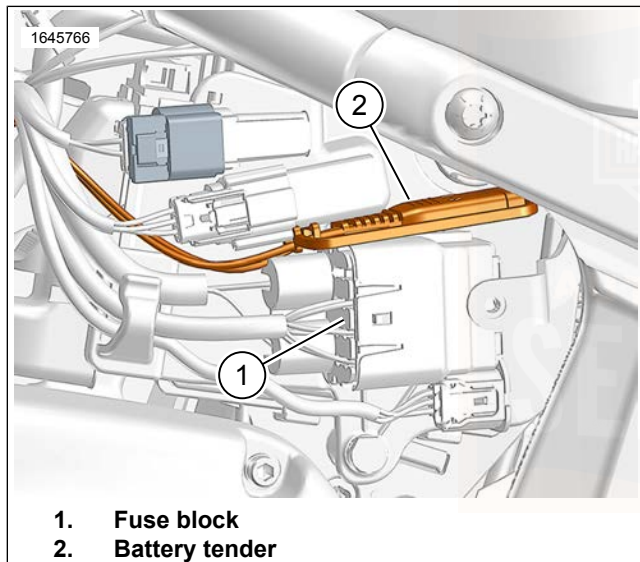

Figure 90. Fuses
3. See Figure 90 and Figure 91. Remove fuse block from caddy on motorcycle.